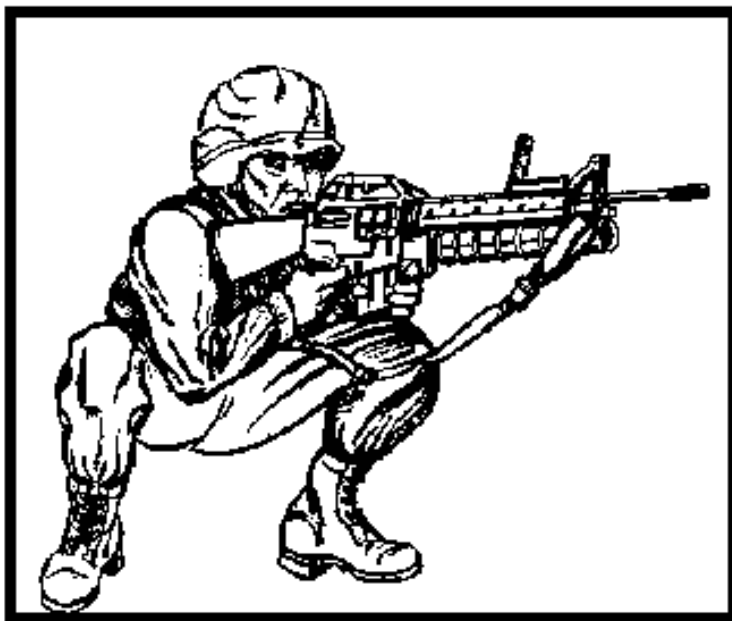

Figure 5-6. Squatting position.
(6) **Squatting position.** Figure 5-6 shows the squatting position.